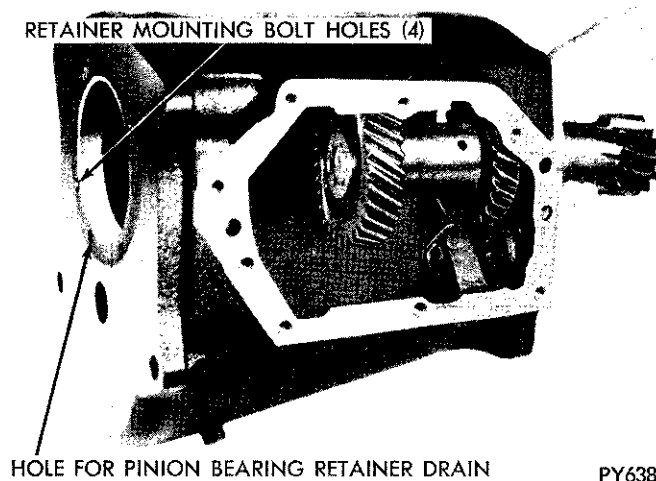
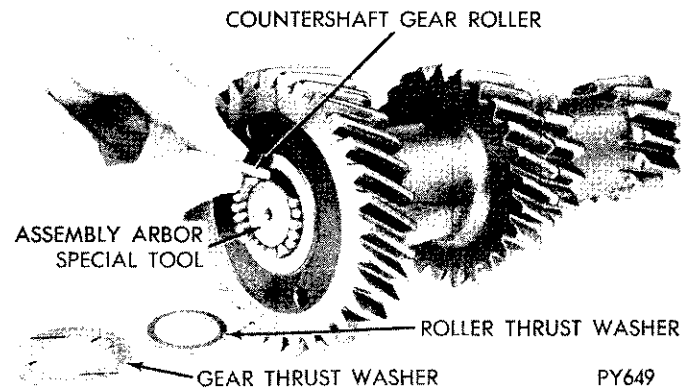

Fig. 13—Countershaft Gear and Arbor Assembly—Removal or Installation
Fig. 24—Countershaft Gear—Roller Bearing Assembly
(6) Lift countershaft gear and arbor assembly out through rear of case (Fig. 13).
- (1) Slide assembly arbor, Tool C-4112, into countershaft gear.
- (2) Slide one roller thrust washer over arbor and into gear, followed by 22 Greased Rollers (Fig. 24).
- (3) Repeat Step 2, adding one roller thrust washer on end.
- (4) Repeat Steps 2 and 3 at other end of countershaft gear. (Total of 88 Rollers and 6 thrust washers).
- (5) Place greased front thrust washer on arbor against gear with tangs forward.
- (6) Coat rear thrust washer with heavy grease and stick it in place in the transmission case, with tangs rearward.
- (7) Carefully place countershaft gear assembly in position in bottom of transmission case (Fig. 13). **Do not finish installation with countershaft and key until drive pinion is installed.**